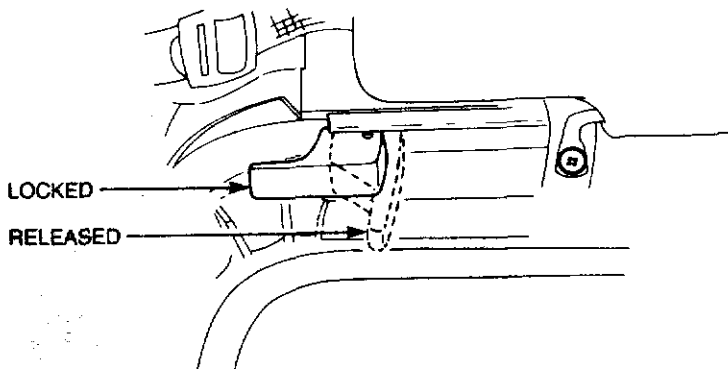

Figure 2-5 Canopy retaining latches
- a. Ensure that the four latches above the windscreen are in the released position (see Fig. 2-5).